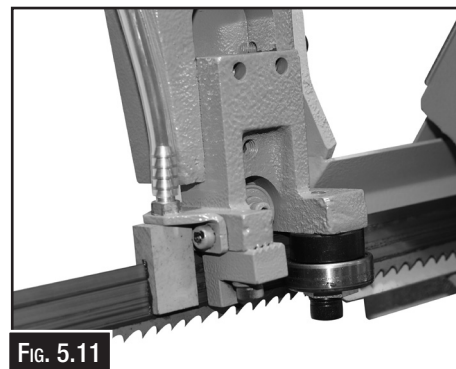

FIG. 5.11
8. Make sure that the teeth are facing in the right direction, then place the new blade into the front and rear carbide blade guides, then position it around each wheel. (Fig. 5.11)